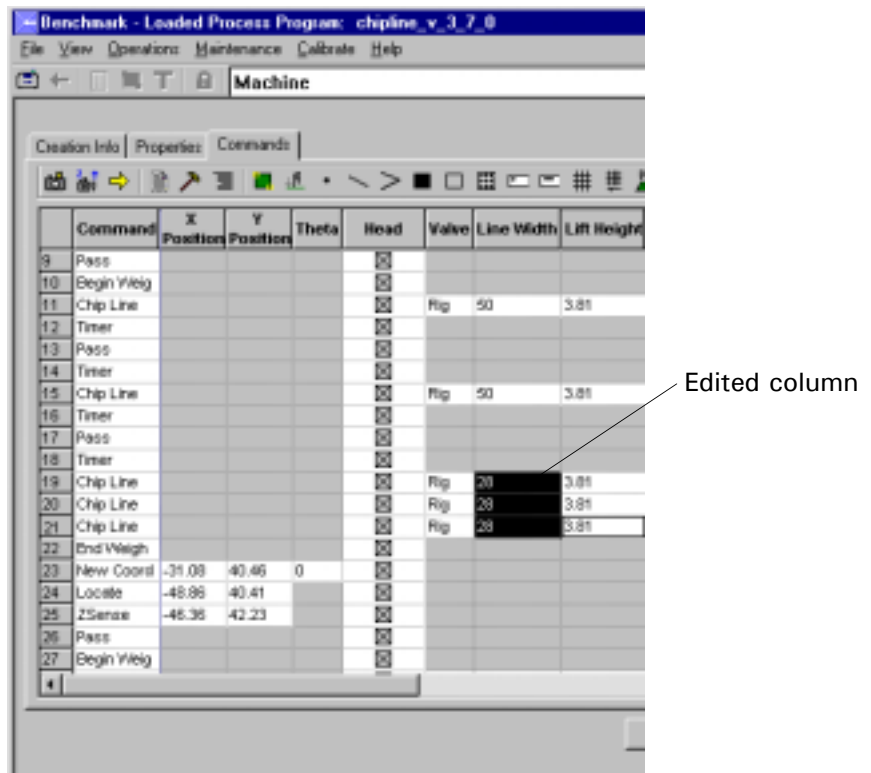

Figure 7-3
3. Change the values in the selected cells by using the number pad on the keyboard. Press **Enter** to change the values in the whole string selected. See Figure 7-3.
Note that the original value was **0.25** in Figure 7-2 and the cells were edited to **0.28** under the Line Width shown in Figure 7-3.